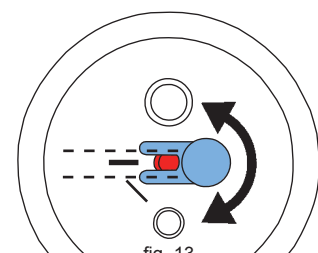

fig. 13
- The dosing nozzle must be adjusted with blasting tanks of 25-70µm (fig. 13)!